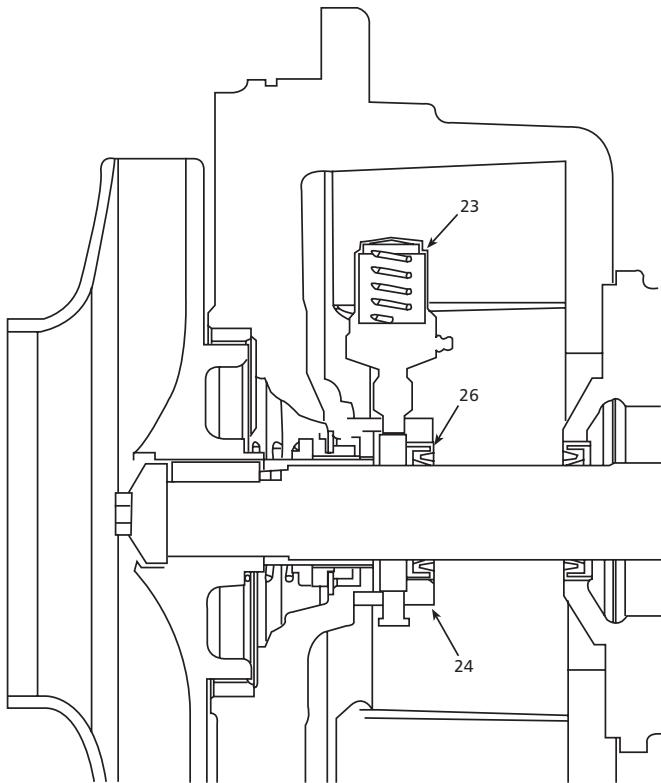

Figure 15
- The grease gland (24) will have the letters "G" and "O" stamped on the outside diameter and have two $\frac{1}{8}$ " NPT connections for mounting a grease feeder or oiler.
- For grease feed applications, the grease gland is assembled with the "G" stamp in the 12 o'clock position. The grease feeder (23) will mount in the grease gland at a 30 degree angle from the horizontal. This is done to gain access to the grease fitting located on the grease feeder. The lip seal (26) mounted in the grease gland will be assembled as shown in Figure 15.